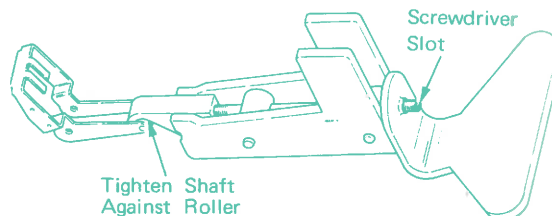

Figure 3
3. With tool installed as shown (Figure 3), make sure shaft is tightened securely against roller to lock roller in place.